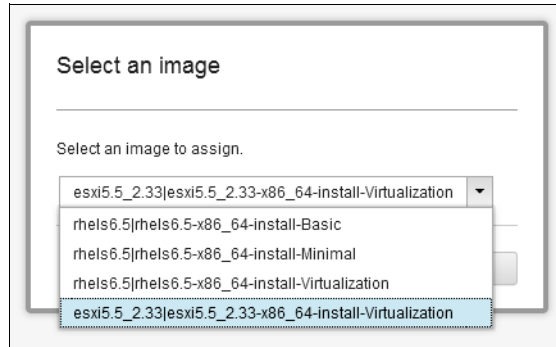

Figure 6-10 OS Image selection
4. Choose the required OS image from list of available images, as shown in Figure 6-10.